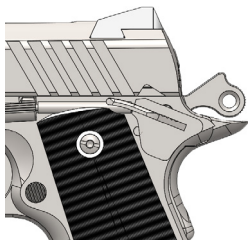

Figure 3
- Lower the slide lock safety lever fully to put it in "OFF" or "FIRE" position – Figure 3. In this condition, the pistol can be fired when the trigger is pressed.